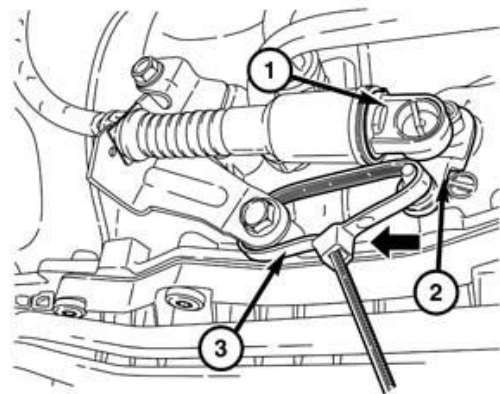

Figure 12 – Mechanical Park Release Cable
28. Disconnect the Mechanical Park Release (MPR) cable (1) from the lever (2) (Figure 12).
29. Rotate the MPR lever (2) forward to engage neutral position and secure it with a suitable zip tie (3) (Figure 12).